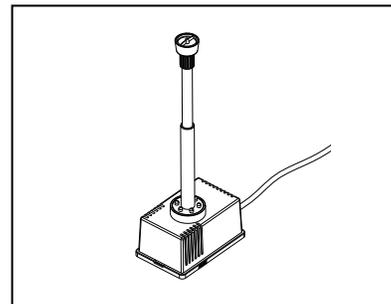

Fig. 16
5. Reassemble the pump and filter box kit. Fig. 16